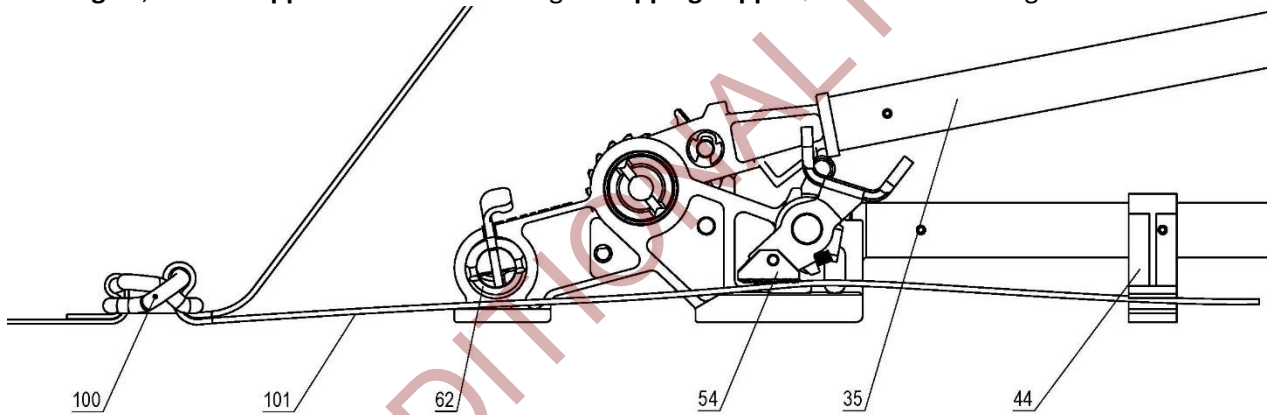

Fig. 2
1. Raise **Gripper Foot 54** by pressing down on **Tension Handle 35**. Load bottom strap **101** under **Cutter Housing 62**, under **Gripper Foot 54** and through **Strapping Support 44** as shown on Fig. 2.